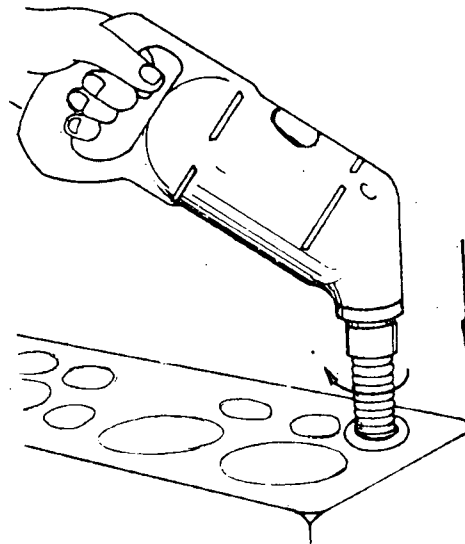

Fig. 3
- c) Grind the seatings, according to specifications (fig. 3).